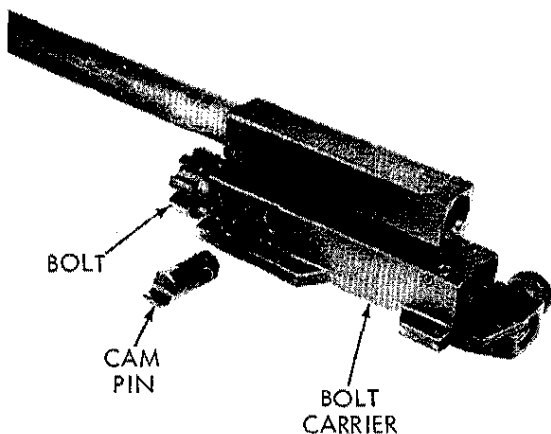

FIGURE 18. REMOVING CAM PIN AND BOLT
- (2) Remove the firing pin from the bolt carrier.
- (3) Push the bolt into the carrier, and remove the cam pin from the bolt (fig. 18).
- (4) Remove the bolt from the bolt carrier.